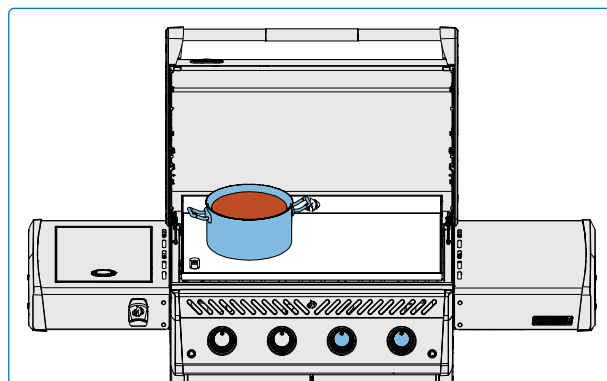

Fig. 10
- Use the griddle plate to melt or warm sauces. Place pots or pans off to one side over low to medium heat. **(Fig. 10).**